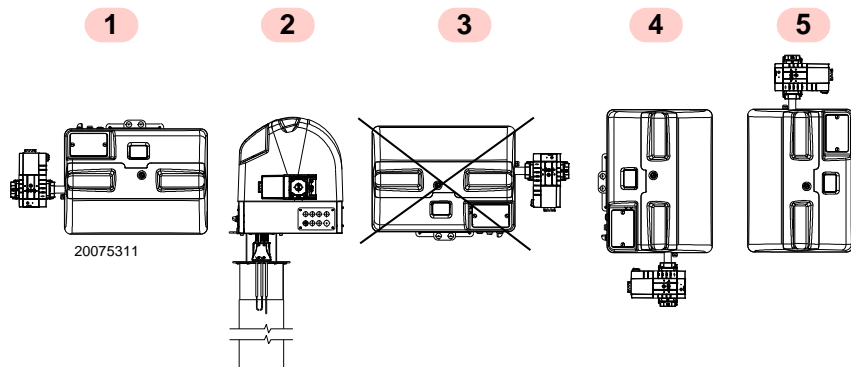

Fig. 13
- The burner is designed to operate only in positions 1, 2, 4 and 5 (Fig. 13).
- All the positions require the installation of the gas valve with coils facing upwards or horizontally (Fig. 13).